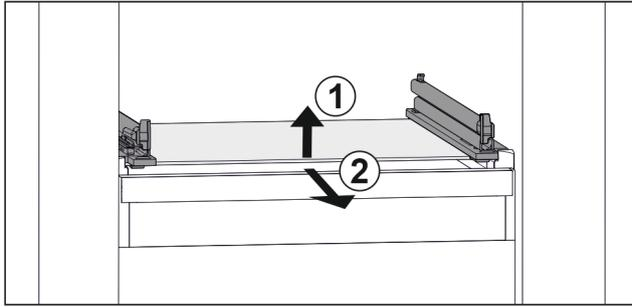

Fig. 153 Example illustration of glass shelf
- ▶ Lift glass shelf at the front. Fig. 153 (1)
- ▶ Remove glass shelf to the front. Fig. 153 (2)